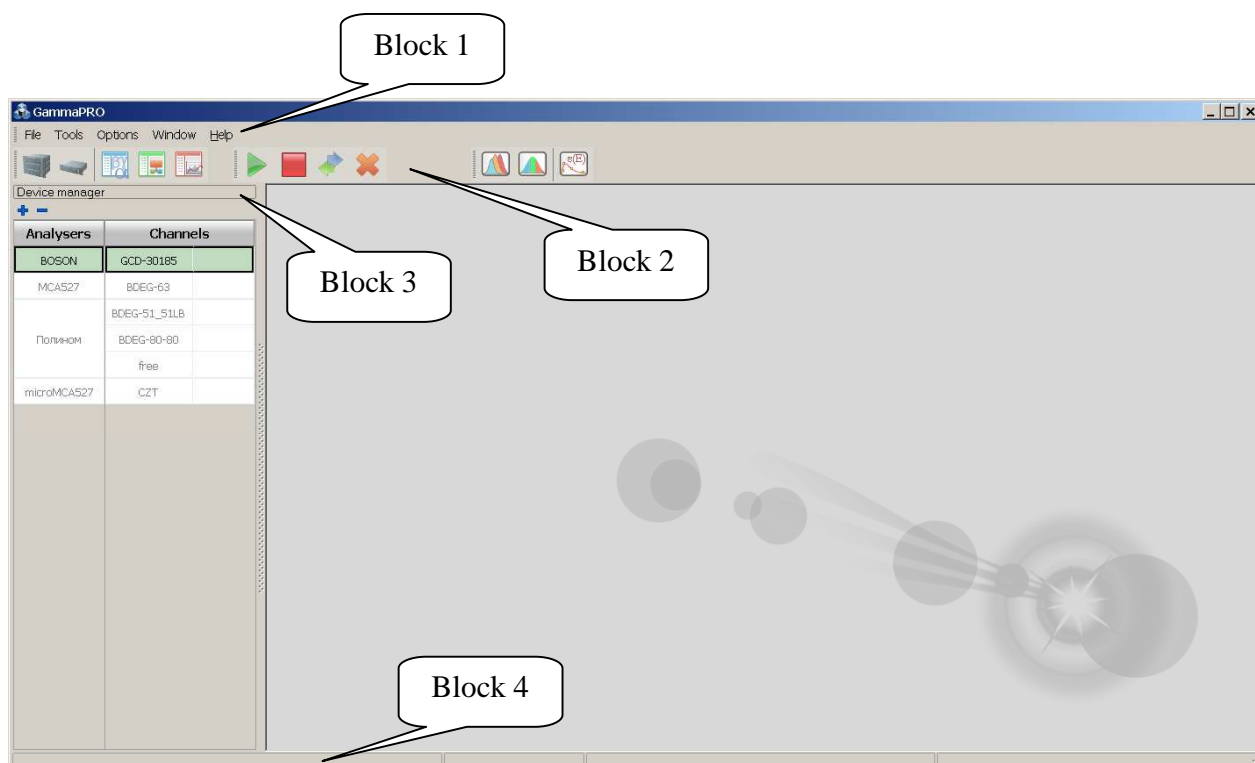

Figure 1. View of **GammaPRO** after its launch
When the programme has started, the main window of the programme will appear on the display (Fig.1).
As **Device manager** (Block 3, Fig.1) can be separated from the left edge of the main programme window and can be closed, then **Device manager** can make this panel visible again.
GammaPRO toolbar looks as shown on Figure 1 (block 2). The panel is divided into groups, which can be moved within the panel, or “separated” from the panel and moved to some other area of the main window of the programme.
-  - **Device configuration**, displays a configuration window of the analyser (device), which is highlighted in the **Device manager** right now (Fig.1, block 3, Analysers column);
-  - **Tract configuration**, displays a configuration window of the spectrometric tract, which is highlighted in the **Device manager** right now (Fig.1, block 3, Channels column);
-  - **Measurement parameters**, displays a window with parameters of measurements for the spectrometric tract, which is highlighted in the **Device manager** right now (Fig.1, block 3, Channels column);
-  - **Calculation parameters**, displays a window with calculation (activity, etc.) parameters for the spectrometric tract, which is highlighted in the **Device manager** right now (Fig.1, block 3, Channels column);
-  - **Spectrum view parameters**, displays a window with parameters of the view of the spectrum (colours of elements of the histogram, background, axes, etc.) for the spectrometric tract, which is highlighted in the **Device manager** right now (Fig.1, block 3, **Channels** column).
-  - **Energy calibration**, displays energy calibration for the tract, which is highlighted in the **Device manager** right now (Fig.1, block 3, Channels column);
- **FWHM and shape calibration**, displays FWHM (full width at half maximum) and shape (left edge shape) calibration of the peak for the tract, which is highlighted in the **Device manager** (Fig.1, block 3, **Channels** column);
- **Start**, starts a measurement in the spectrometric tract, which is highlighted in the **Device manager** right now (Fig.1, block 3, **Channels** column);
- **Stop**, stops a measurement in the spectrometric tract, which is highlighted in the **Device manager** right now (Fig.1, block 3, **Channels** column);
- **Read**, forced reading of the spectrum from an analyser for the current spectrometric tract, which is highlighted in the **Device manager** right now (Fig.1, block 3, **Channels** column);
- **Clear**, clears spectrum buffer in the analyser for the current spectrometric tract, which is highlighted in the **Device manager** right now (Fig.1, block 3, **Channels** column).
The **Device Manager** panel (Fig.1, block 3) is intended for switching between analysers (devices) and tracts within a single analyser (if the analyser is multi-tract analyser). This solution allows simultaneously and operatively controlling any number of devices connected to the PC and spectrometric tracts, to start measurements and conduct processing.